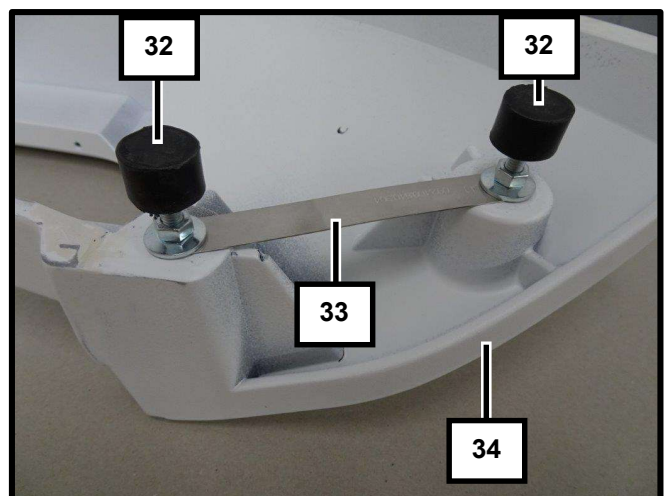

Fig. 47
- 44 Align the TECHART base frame (34) to the vehicle, for that adjust the stopper in such way that it fits to the side part, gap about 1mm.
Adjust the height with the stoppers (32) (Fig. 47 and 48) in such way that the base frame fits perfectly.